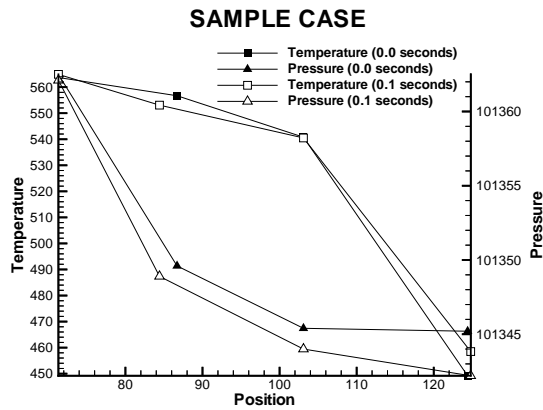

Figure 3-6. A multi-zone XY Line plot.
3.3 “Text Record”) to add a title to the plot. The plot shown in Figure 3-6 can be produced from this file.